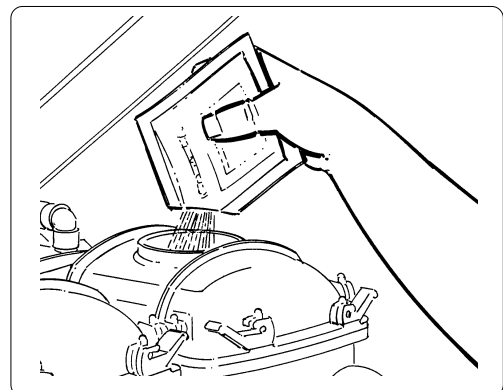

Fig. 21
i) Pour the sanitising product (also included in the CIP kit) into the tank, following the instructions given for its use (fig. 21).